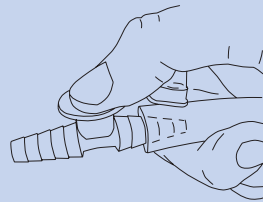

Fig. 21
2. Keep the opening of the suction tube (fig. 1(I)) and the fingertip (fig. 21) shut.
2. Control the aspiration procedure and the desired vacuum via the additional air opening on the fingertip (fig. 21).